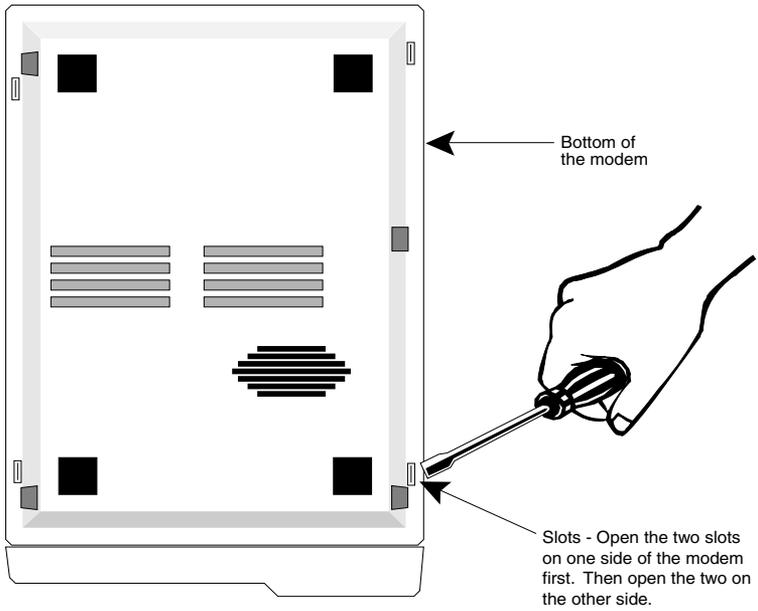

Figure C-1. Cover Removal
- 2) To disengage the cover's locks from the the base of the modem, insert a medium size flat screwdriver blade in one of the slots as illustrated in Figure C-1. DO NOT PUSH the screwdriver, but pry the lock open by applying pressure toward the unit.